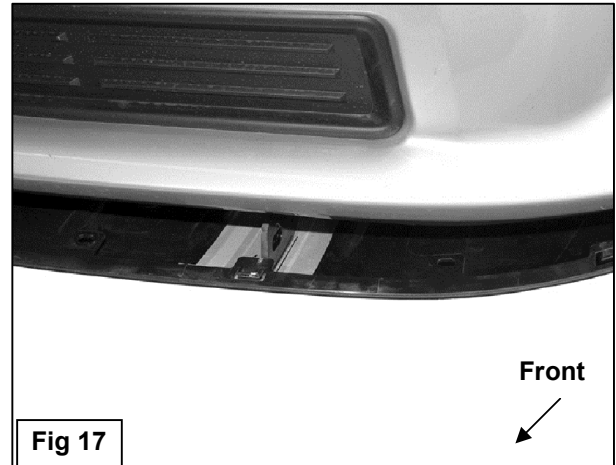
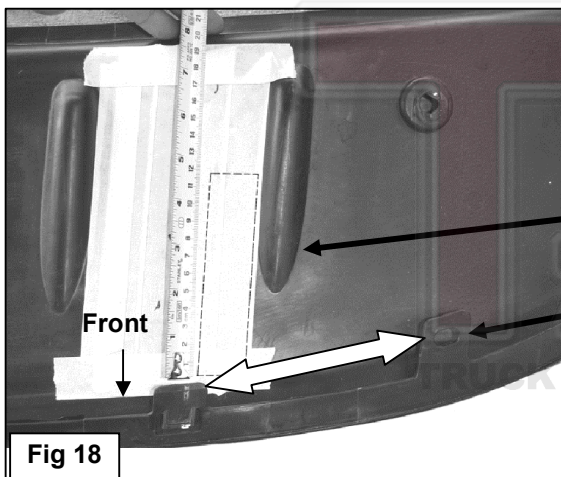

Fig 17
Fig 18
12. Next, hold the splash guard up to the bumper cover and align it with the mounting points. Mark the location of the Bull Bar Brackets and Mounting Brackets onto the back of the splash guard, **(Figure 17)**. Cut an approximately 1.5" wide by 4.5" slot in the splash guard as pictured in **Figure 18**. **NOTE:** The size of the box is an estimate only and may vary due to different factory designs for the splash guards and front bumper covers. Also, additional cutting may be required to clear the Support Bracket on vehicles equipped with tow hooks. **IMPORTANT:** To maintain the integrity of the splash guard, do not cut the slot any larger than necessary. Do not cut through the front or back edges of the cover, **(Figure 18)**. Make several small cuts first and check the fit often for a clean installation.